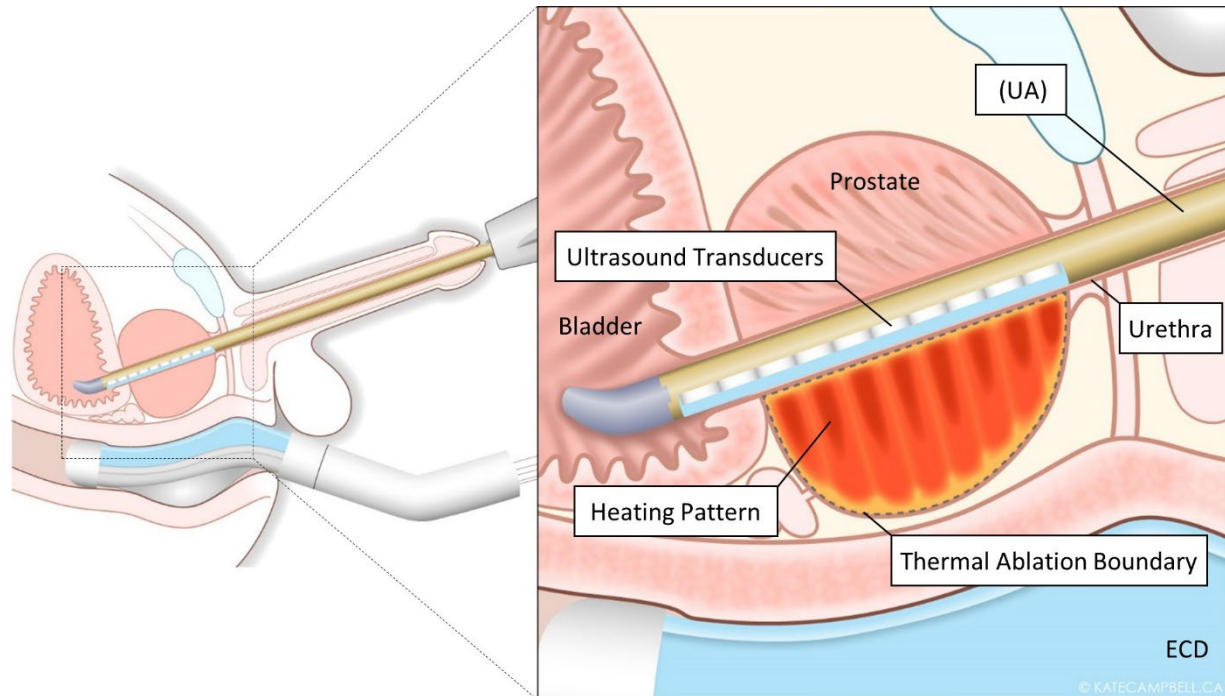

Figure 4: Concept diagram of UA in prostate
The TULSA-PRO system combines real-time Magnetic Resonance (MR) imaging and MR thermometry with transurethral directional ultrasound and closed-loop process control software to deliver precise thermal ablation of physician prescribed prostate tissue (*Figure 4*). The system consists of both hardware and software components.